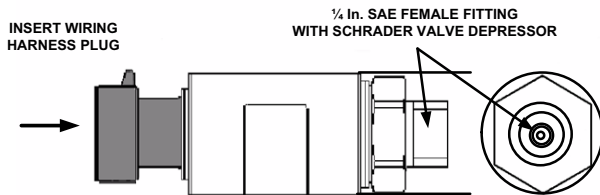

FIGURE 2 - PRESSURE TRANSDUCER
2. Attach the pressure transducers to the connection tee (provided in accessory). The pressure transducer has a 1/4 In. SAE female flare with Schrader valve depressor for mounting to the tee. See Figure 2.